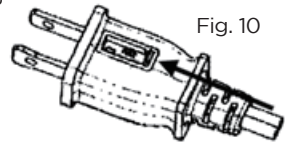

Fig. 10
- Open fuse cover located in the side of the power cord plug by sliding it toward the plug blades (Fig 10.)